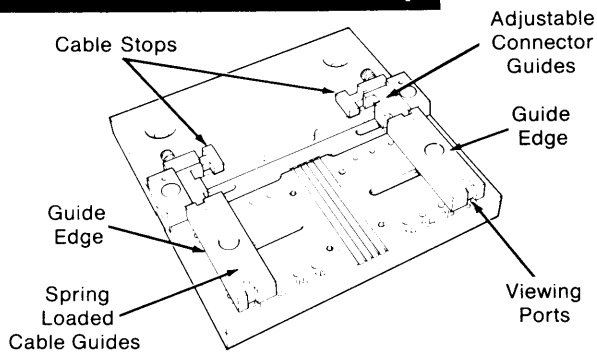

Figure 1
2. For ground plane and shielded cable, position the **cable guides** on the locator plate with the viewing ports **closest** to the cable guide edge when at the desired number of contacts (Figure 1).
For standard and color coded cable, position the **cable guides** on the locator plate with the viewing ports **farthest** from the cable guide edge when at the desired number of contacts (Figure 1).